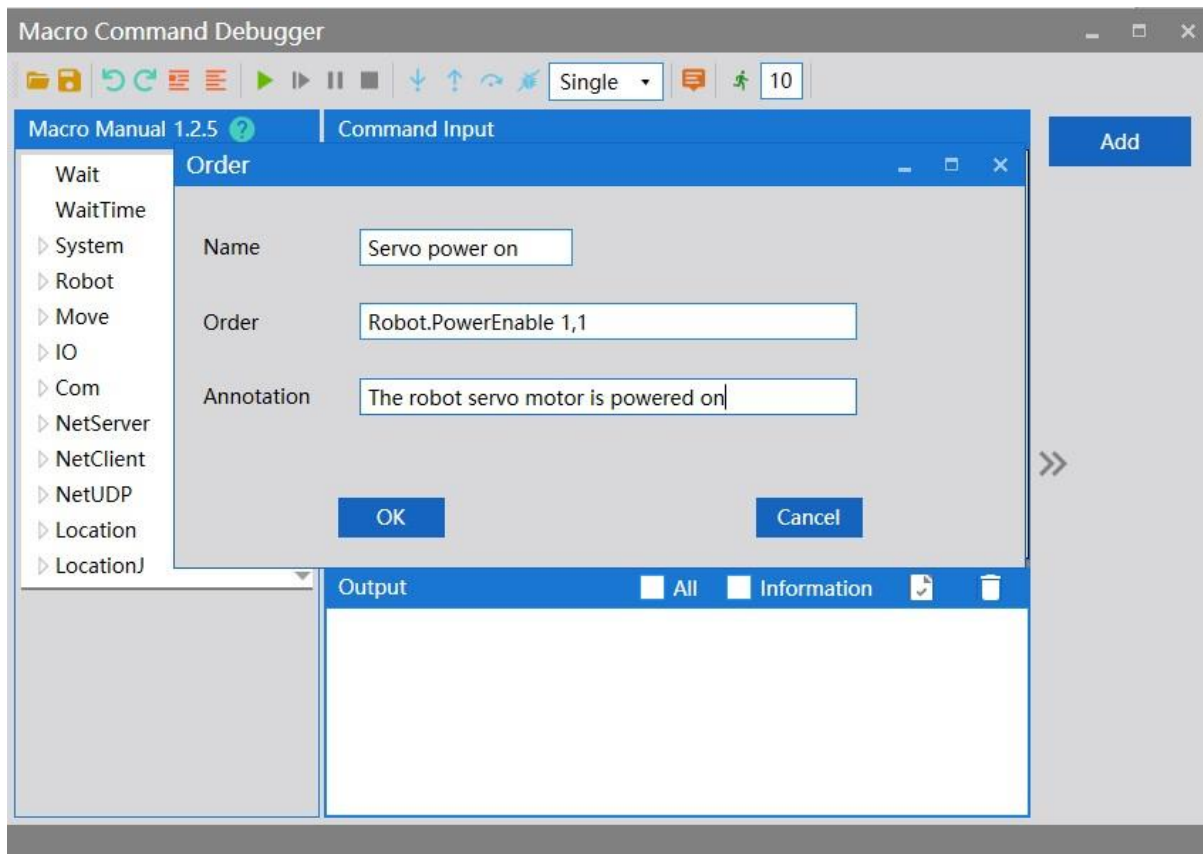

Figure 6-10 Customize the editing interface(ARM)
Step 2 Click the < add > button on the right to open the operation instruction dialog box. Type the instruction name "servo power on", the operation instruction content "robot. Powerenable 1,1" and the comment "robot servo motor power on" in the input box of the interface to edit the required instructions,as shown in Figure 6-10.